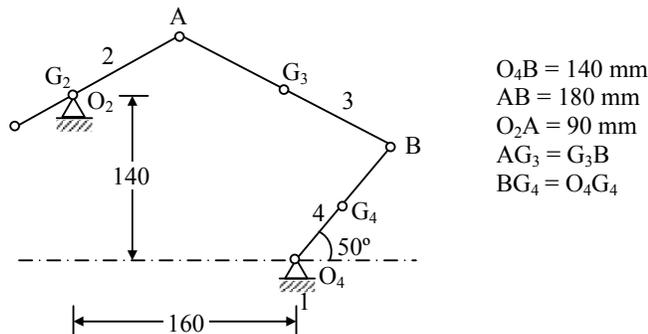

Fig. 3
6. a) Write about friction in link connections. (6)
b) The mechanism shown in Fig.3, starts from rest with an angular acceleration $\alpha_2 = 1000 \text{ rad/sec}$, CCW. A clockwise couple of torque $T_4 = 30 \text{ Nm}$ is applied to link 4. The links of the mechanism have the following properties.